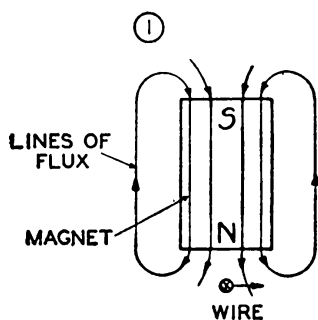
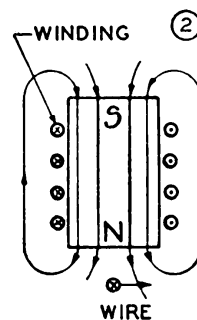

FIGURE 4. Generator theory—permanent magnet.
FIGURE 5. Generator theory—electromagnet.
**a.** The fundamental principle of operation of any generator, either a-c or d-c, is indicated in figures 4 and 5. In figure 4, a permanent bar magnet is shown, with lines of flux leaving the north pole and entering the south pole. If a wire is moved past the pole of the magnet at right angles to the lines of flux, a voltage will be induced in the wire.
- (1) Strength of magnet.
- (2) Length of wire.
- (3) Speed of movement of wire.
**d.** In practice, an electromagnet (fig. 5) is used rather than a permanent magnet because a permanent magnet tends to lose its strength over a period of time. Also, the strength of an electromagnet can be readily controlled by the number of turns of wire wound on it and by the amount of current in amperes supplied through this wire.
**e.** In an actual generator, such as that used in Power Unit PE-75-(\*), the field poles serve as electromagnets. The armature winding acts the same as the wire shown moving past the end of the magnet in figures 4 and 5. This movement is said to "cut the lines of flux" of the magnet. This induces an alternating voltage in the armature winding, which is con-